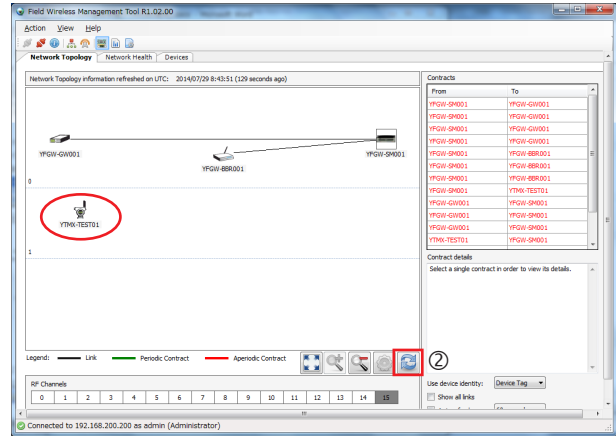

Figure 29
- ② Check the network connection status. Click the Network Topology tab. If the displayed content is like what is shown in figure 29, YTMX580 is registered to the network and the parameters can be changed through wireless communication. (It will take 5 to 30 minutes to reach this status.) Click the Refresh button to refresh the displayed information.